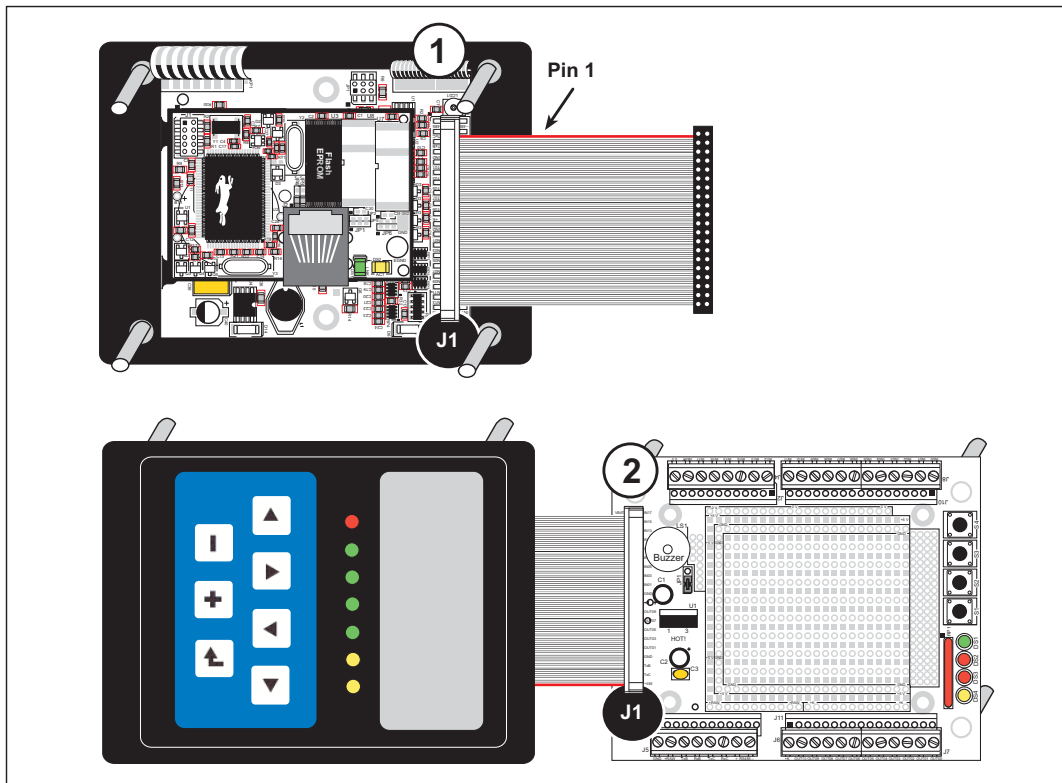

Figure 3. Connect the OP6800 to the Demonstration Board
2. Connect the OP6800 to the Demonstration Board from the Tool Kit using the ribbon cable connector as shown in Figure 3. First, connect the ribbon cable to header J1 on the OP6800 (Step 1), then turn the OP6800 over and connect the other end of the ribbon cable to header J1 on the Demonstration Board (Step 2). By connecting the boards this way, you have the option of placing the Demonstration Board behind your OP6800 in your final installation as explained in Appendix C.